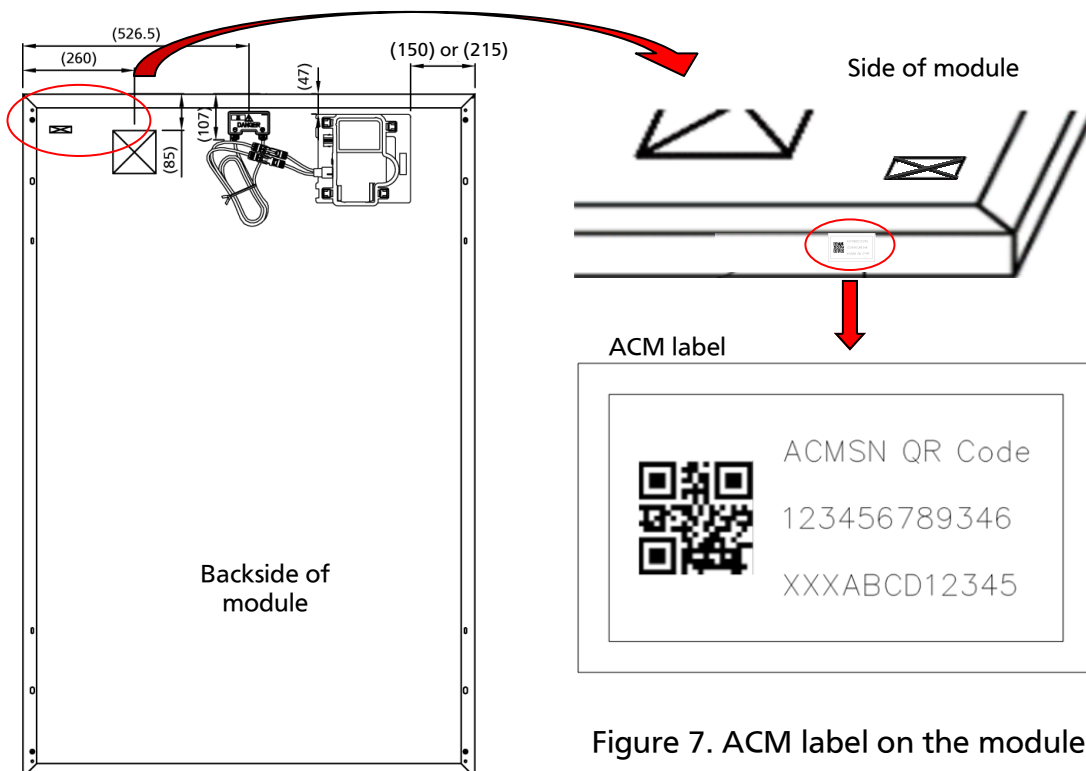

Figure 7. ACM label on the module frame
- Each PV Module and Enphase IQ Envoy has a removable serial number label. Build the installation map by peeling the serial number labels from the Modules and placing the labels on the map. See Figure 7.